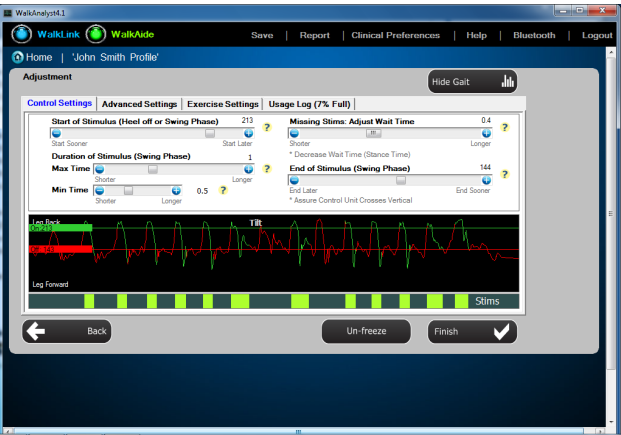

Figure 62: Tilt on threshold too high
- Example 2 - Tilt On Threshold is too high (Figure 62). A stimulation occurs with each step but the user reports a late stimulation or the clinician hears (with “Beep on Stim”) and/or observes a delay in the foot lift. Lower the On Threshold to initiate the stimulation earlier.